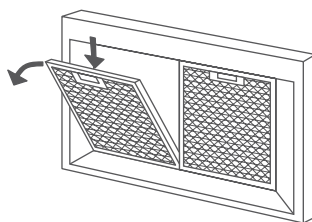

Fig.3 Removing the grease filters
- 3 Remove the grease filters (this is to make installation easier). Press inward on the catch, found on the handle, and pull the filter downward (fig.3).